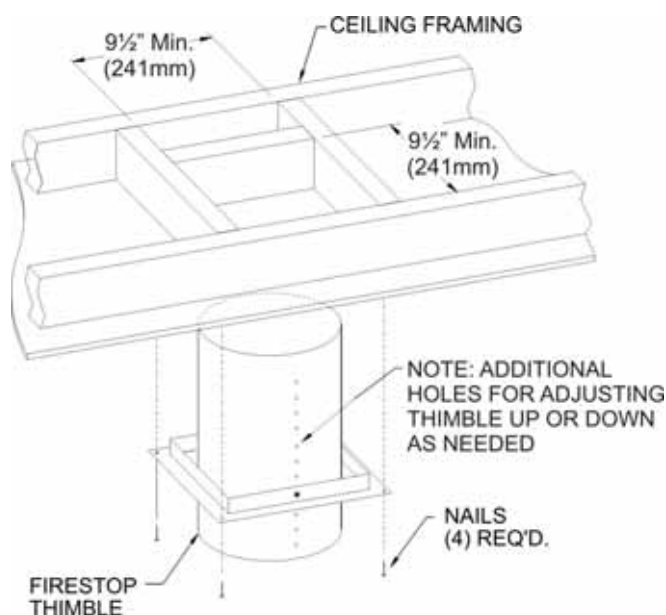

Figure 29
4. Once the fireplace location has been determined, mark the ceiling where the flex vent will pass through. Cut an opening for installation of the firestop thimble assembly. The opening must measure a minimum of 9-1/2" x 9-1/2" square. **See Figure 29.**